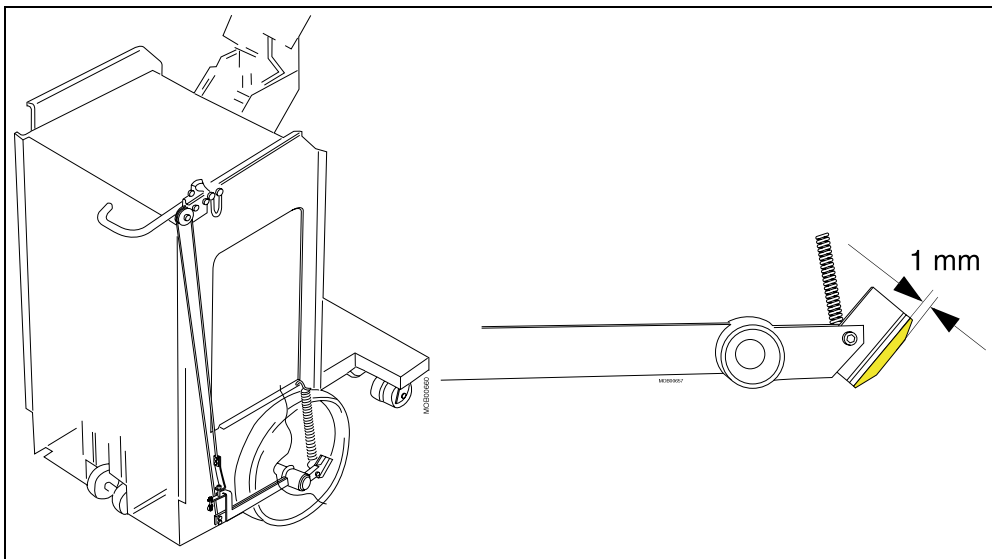

Fig. 2: Smooth rotation
- Check the brake pad (Fig. 2 / p. 38). The brake pad must be > 1mm. If worn (pad < 1mm), replace the brake according to the "Replacement of parts" instructions.